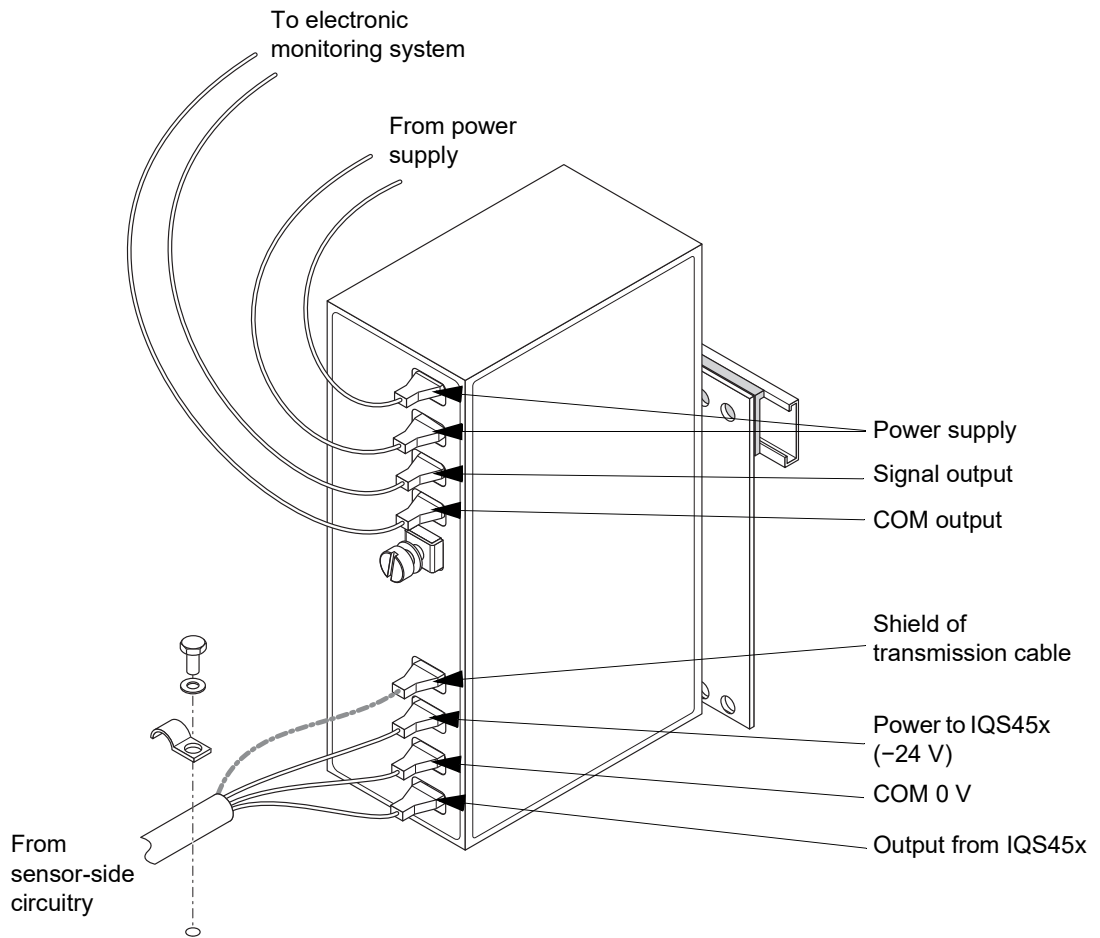

Figure 5-6: A GSV14x power supply and safety barrier unit
The transmission cable from the sensor-side circuitry and the connecting cable to the monitor-side circuitry are connected to the GSV14x using lugs (see Figure 5-6) that are crimped to the wires.
- 2- Identify each wire for both the transmission cable from the sensor-side and the connecting cable to the monitor-side that are connected to the GSV14x. See Figure 5-6 and use Table 5-3 to record the number and/or colour for each wire.
- 5- Undo the M4 fixing screw until the GSV14x has been uninstalled and disassemble the mounting kit from the DIN rail (see Figure 5-6).